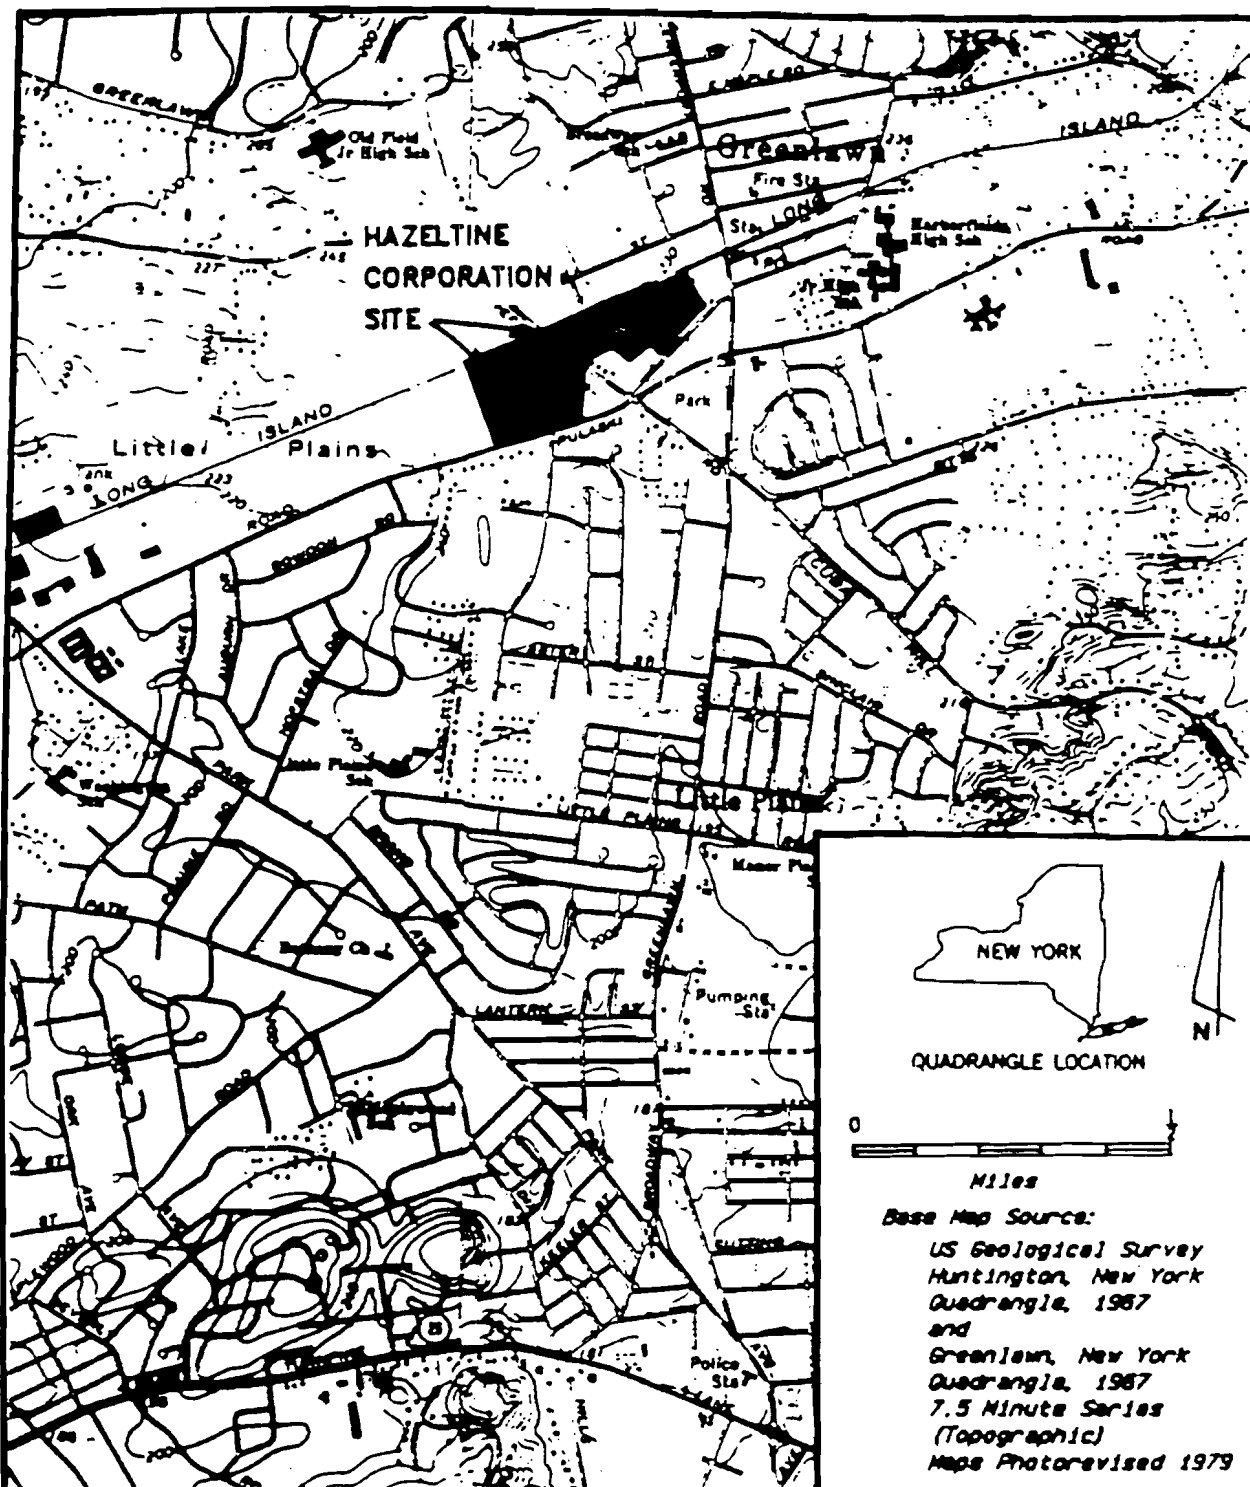

Figure 2-1. Site Location Map,
The Hazeltine Corporation (HC) facility is located in the town of Greenlawn, Suffolk County, New York (Figure 2-1), and is involved in the assembly of electronic systems for military applications. The facility covers approximately 23 acres, and is comprised of two parcels of property separated by a public right-of-way (Cuba Hill Road). There are five main buildings (1 through 5): Building 1 is located on the southwest side of Cuba Hill Road, and Buildings 2 through 5 are located on the northeast side of Cuba Hill Road. The topography surrounding the HC facility is generally flat lying. Portions of both parcels are paved for use as parking lots. The remainder of the land in the parcels is unpaved and/or grassed.